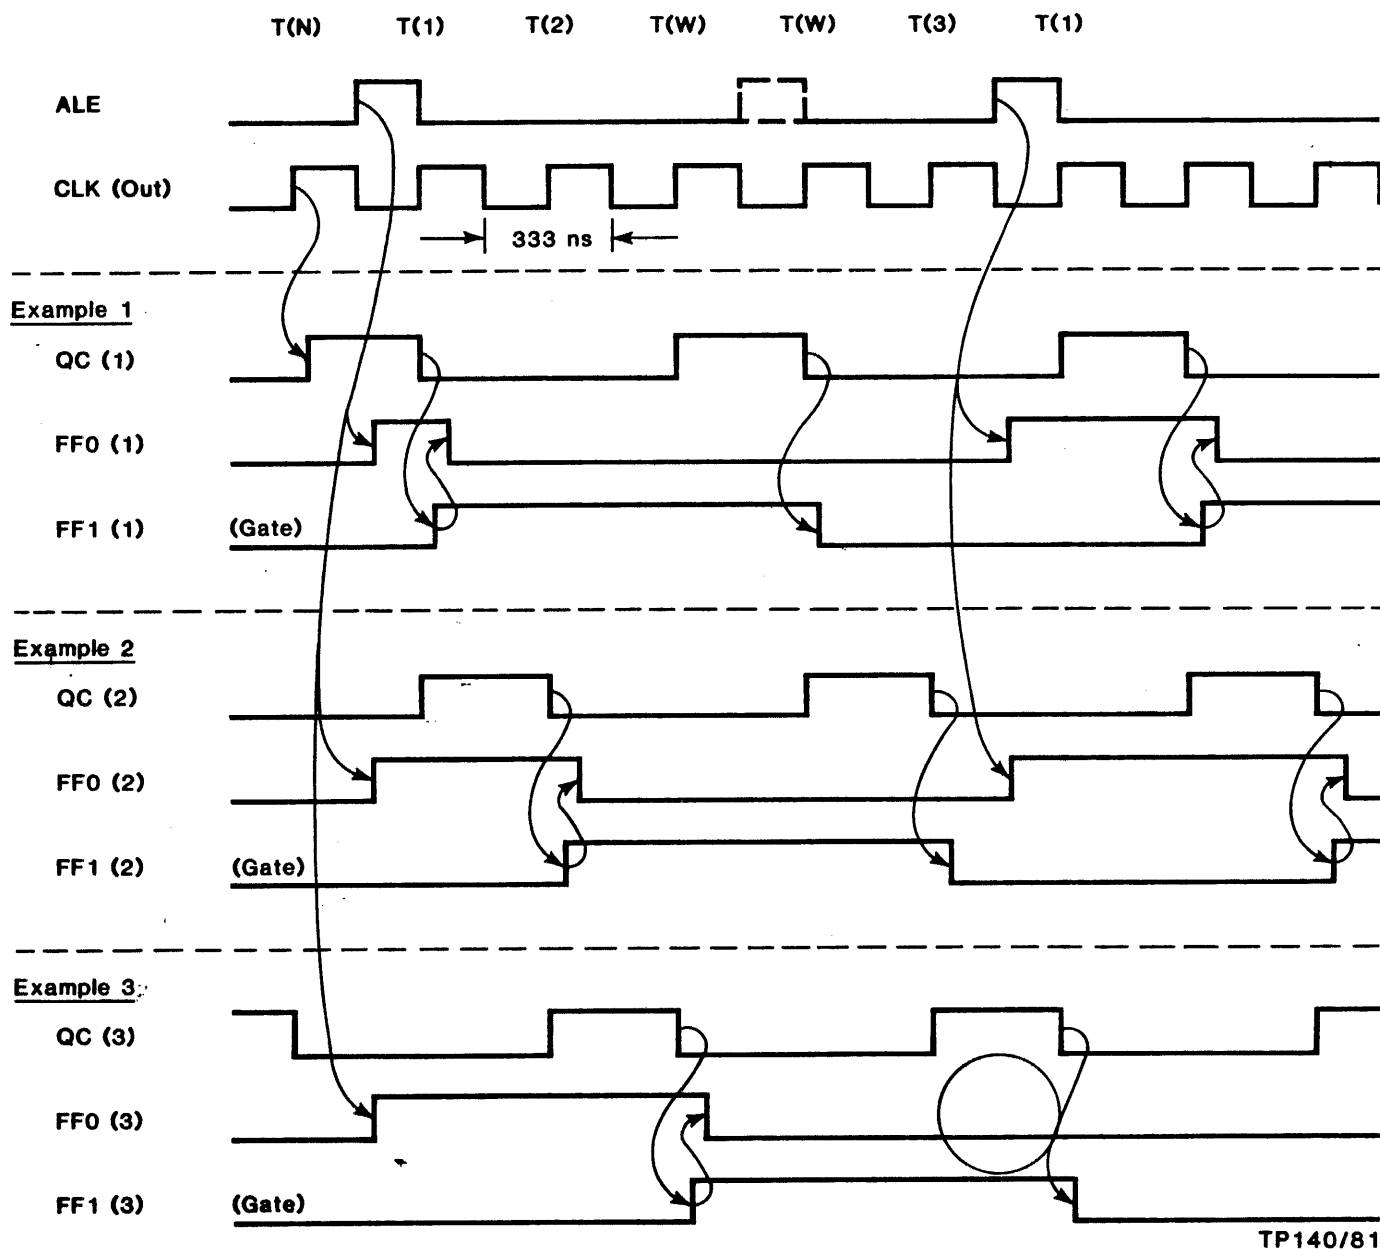

Figure 3-18. Watchdog Timer Timing
Figure 3-18 shows the watchdog timer timing during a normal I/O sequence. Three examples are shown which result from the timing relationship of the 0.1 microsecond pulse to the 0.333 microsecond CLK pulse from the 8085. During the T(W) state, the 8085 is in wait state, but the 8253 is still counting the 0.1 microsecond pulses. During normal operation, the 8253 counter does not complete its count while the 8253 gate has been enabled. There will not